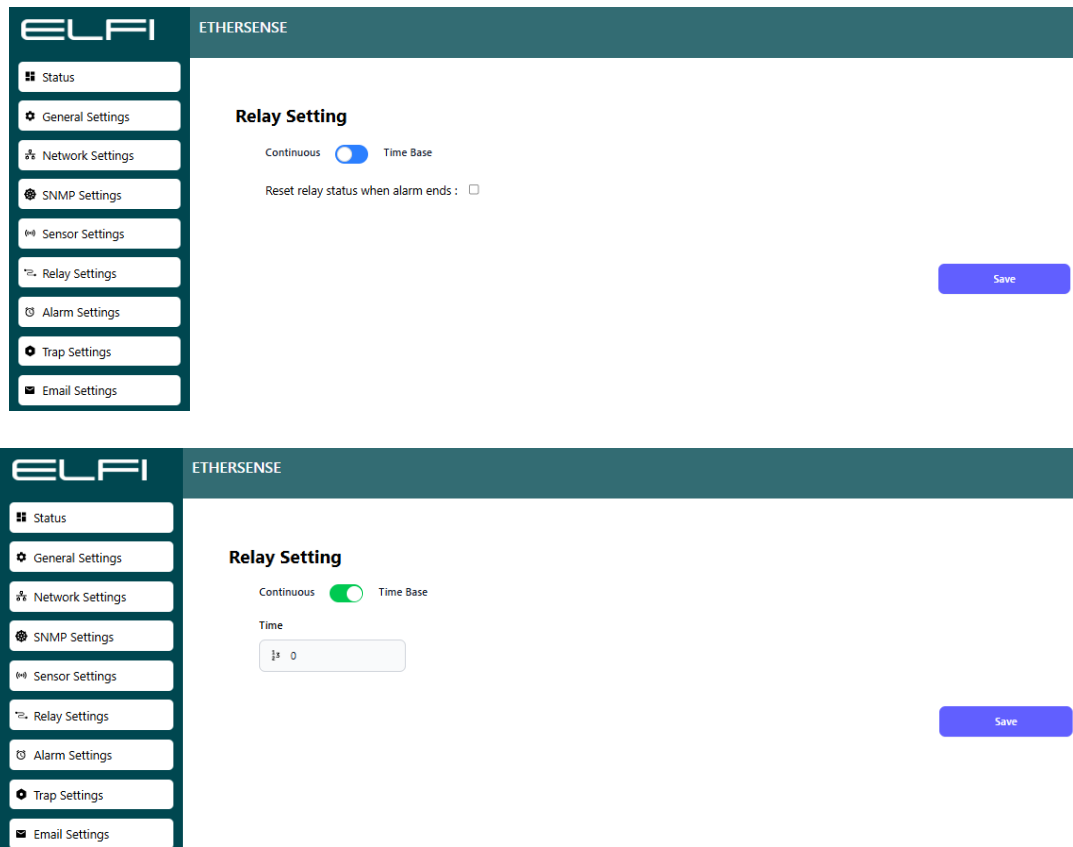

Figure 10: Sensor “Relay Settings” Menu
- If Continuous mode is selected, once the relay is triggered, connected devices—such as alarms, cooling systems, etc.—will remain active until the Sensor exits the alarm state. Additionally, in Continuous mode, if the option “Reset relay status when alarm ends” is enabled, the relay will automatically return to its previous state when the alarm condition ends (e.g., the alarm will be turned off). (See Figure 10)